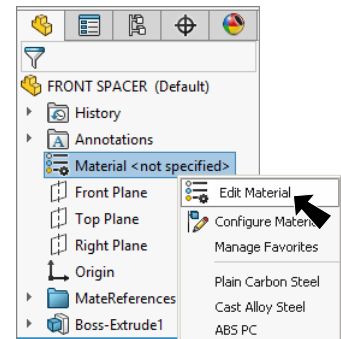

Fig. 8
Step 1. **Right click Material** in the Feature Manager and click **Edit Material**, **Fig. 8**.